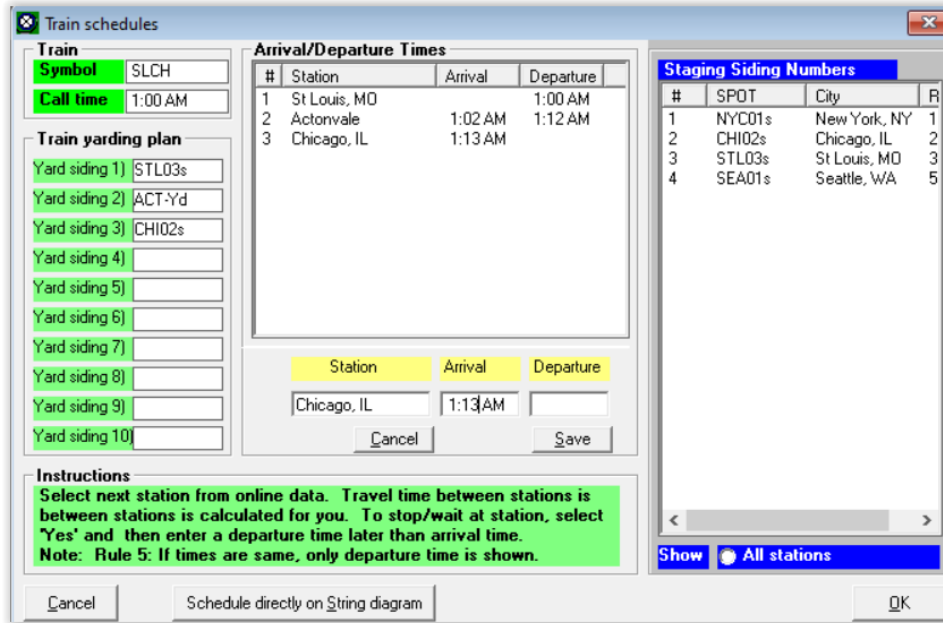

Figure 12-19
10. To change the arrival time to our calculated 1:16 am, click in the arrival time data field. As soon as you click in the "Arrival" data field, the buttons change to read "Cancel" and "Save" (See Figure 12-19). The "Cancel" is as previously described and the "Save" functions as the "Save stop" did in Step 6 above.